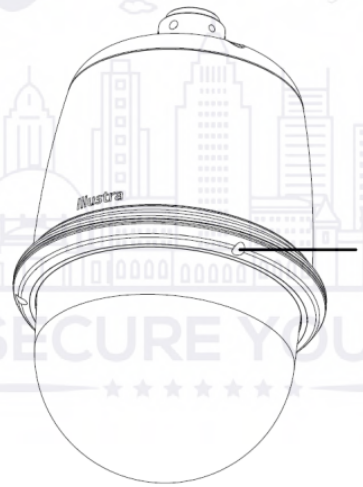

Figure 2
1. Remove the three screws located on the camera head (1) (Figure 2).